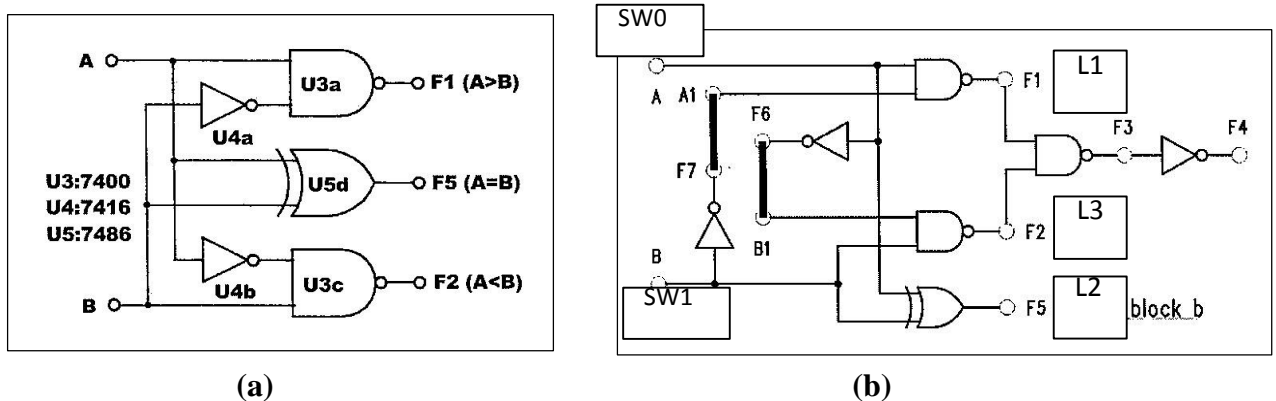

Figure 5.1
5.1 Figure 5.1(a) illustrates a one-bit comparator circuit. Figure 5.1 (b) illustrates the connection made on the Figure 5.1(a) using block b circuit on Lab Module KL-34001